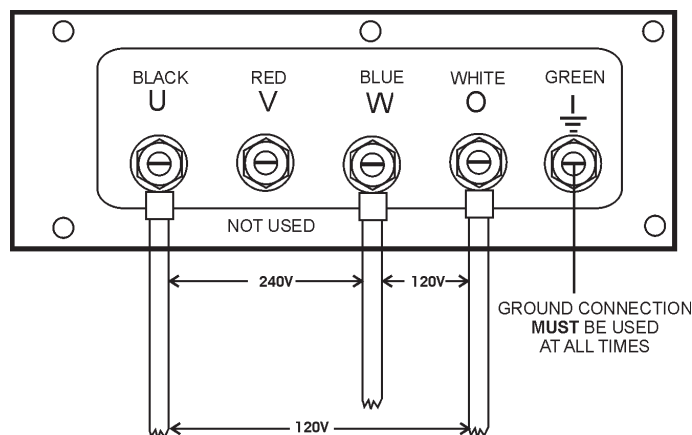

Figure 30. Output Terminal Lugs 1Ø-240V/120V Connections
2. Connect the load wires to the **Output Terminal Lugs** as shown in (Figure 30).